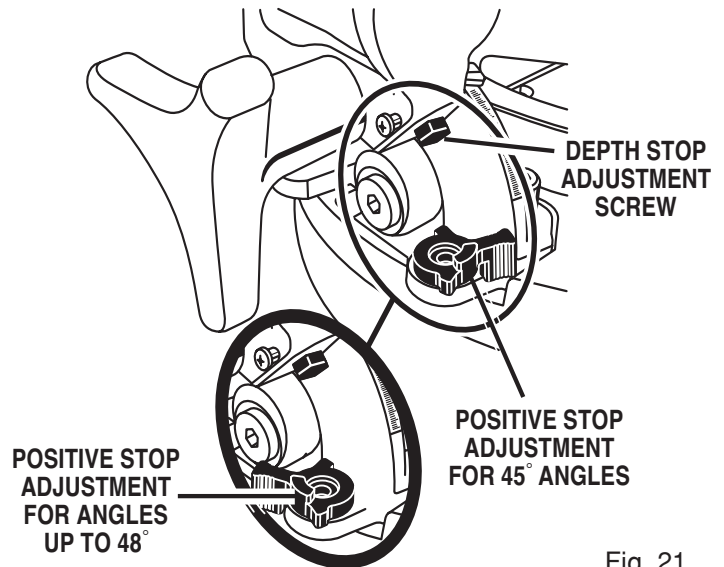

Fig. 21
- Adjust positive stop adjustment screw to bring saw blade into alignment with the square. See Figure 21.